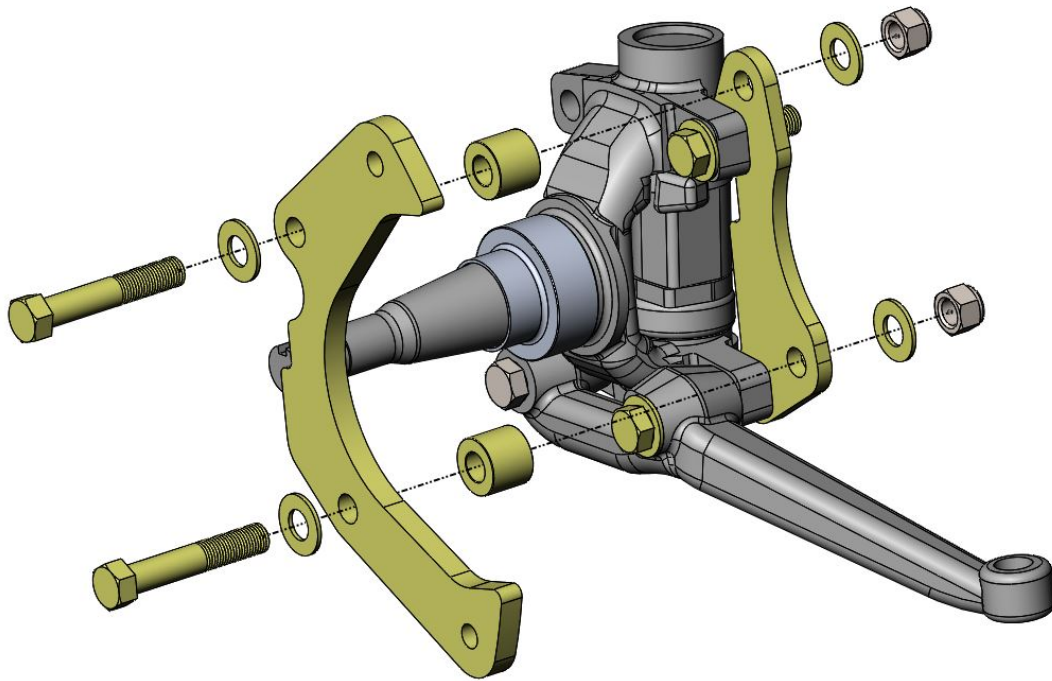

Figure 3 – Primary Caliper Mounting Bracket Installed (Driver Side Shown)
7. Using two Spacer Bushings, place them against the Secondary Bracket followed by the Primary Caliper Mounting Bracket. The brackets install on the outside of the Secondary Mounting Bracket. Insert a 7/16"-20 x 2-1/2" Grade 8 Hex Head Bolt and Flatwasher through the brackets and bushings. Use a 7/16"-20 Nyloc nut and torque the bolts to 75 ft/lbs. Figure 3 on the next page shows this bracket installation.